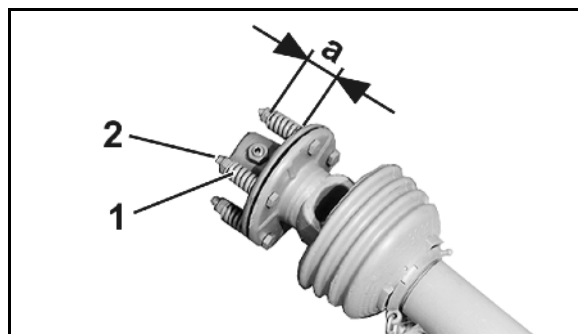

Fig. 93
2. Relieve the springs (Fig. 93/1) by unscrewing the nuts (Fig. 93/2).